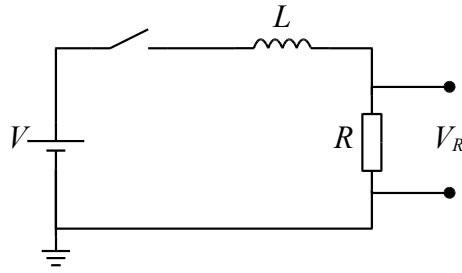

Figure 4 The setup to measure the time response of an RL circuit.
2. Set up the circuit shown in Figure 4. Use a series resistance ( $R$  in the diagram) that has a value comparable to  $R_L$ .